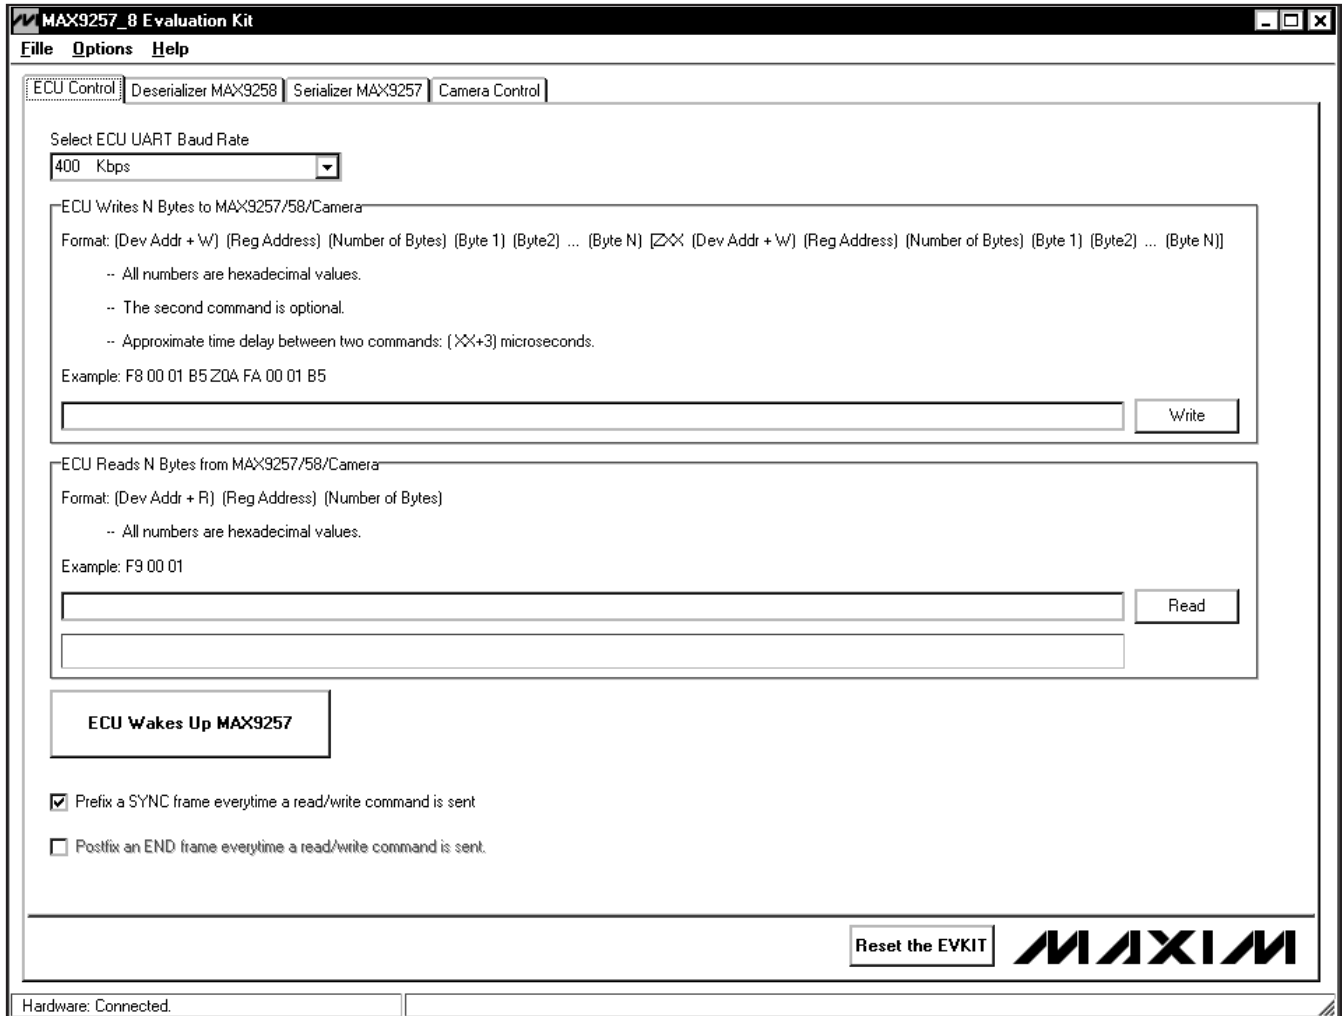

Figure 3. MAX9257/MAX9258 Evaluation Kit Software—ECU Control Tab
- 14) Verify that the software main window shows up next (Figure 3).
The **ECU Control** tab sheet (Figure 3) lets the ECU configure the MAX9258, MAX9257, and the camera.
- 1) Start the program or press the **Reset the EVKIT** button on the **ECU Control** tab sheet (Figure 3).
- Start the program or press the **Reset the EVKIT** button on the **ECU Control** tab sheet (Figure 3).